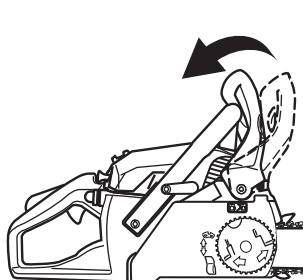
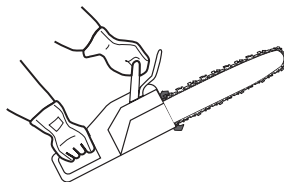

Fig. 21
Fig. 23
The chain brake (2) in the disengaged position, the product can be operated (Fig. 21).
- > Make sure the chain brake (2) is disengaged. Disengage the chain brake (2) by pulling it back towards the front handle (1) (Fig. 21).
- > Place the product on any suitable flat surface, make sure the saw chain (3) is not touching the surface or other objects.
- > Grasp the front handle (1) with your left hand. Your thumb and fingers should encircle the handle. Grasp the rear handle (11) with your right hand. Your thumb and fingers should encircle the handle (Fig. 23).